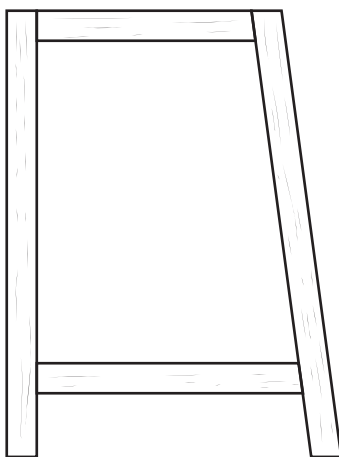

Fig. 13.3
- (c) Fig. 13.3 shows parts of an end frame ready to be glued and clamped.
- (i) Add sketches and notes to Fig. 13.3 to show how the frame could be clamped. [4]